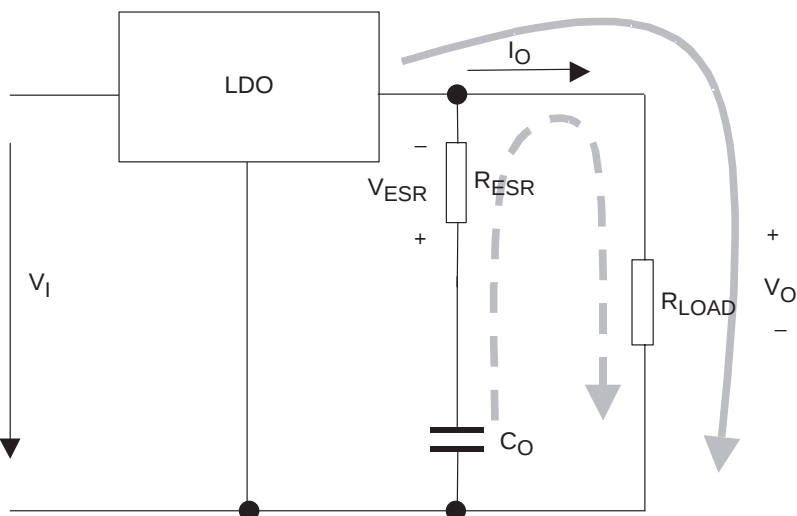
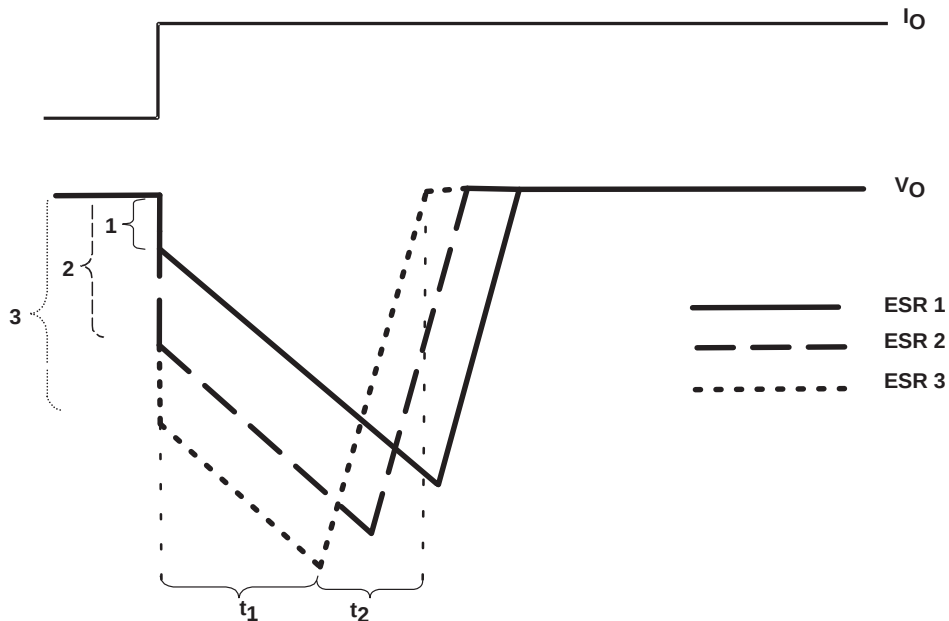

Figure 38. LDO Output Stage With Parasitic Resistances ESR
Figure 39. Correlation of Different ESRs and Their Influence to the Regulation of V_O at a Load Step From Low-to-High Output Current
Figure 38 shows the output capacitor and its parasitic impedances in a typical LDO output stage.
- The LDO is not able to supply the sudden current need due to its response time (t_1 in Figure 39). Therefore, capacitor C_O provides the current for the new load condition (dashed arrow). C_O now acts like a battery with an internal resistance, ESR. Depending on the current demand at the output, a voltage drop will occur at R_{ESR} . This voltage is shown as V_{ESR} in Figure 38.
- When C_O is conducting current to the load, initial voltage at the load will be $V_O = V(C_O) - V_{ESR}$. Due to the discharge of C_O , the output voltage V_O will drop continuously until the response time t_1 of the LDO is reached and the LDO will resume supplying the load. From this point, the output voltage starts rising again until it reaches the regulated voltage. This period is shown as t_2 in Figure 39.